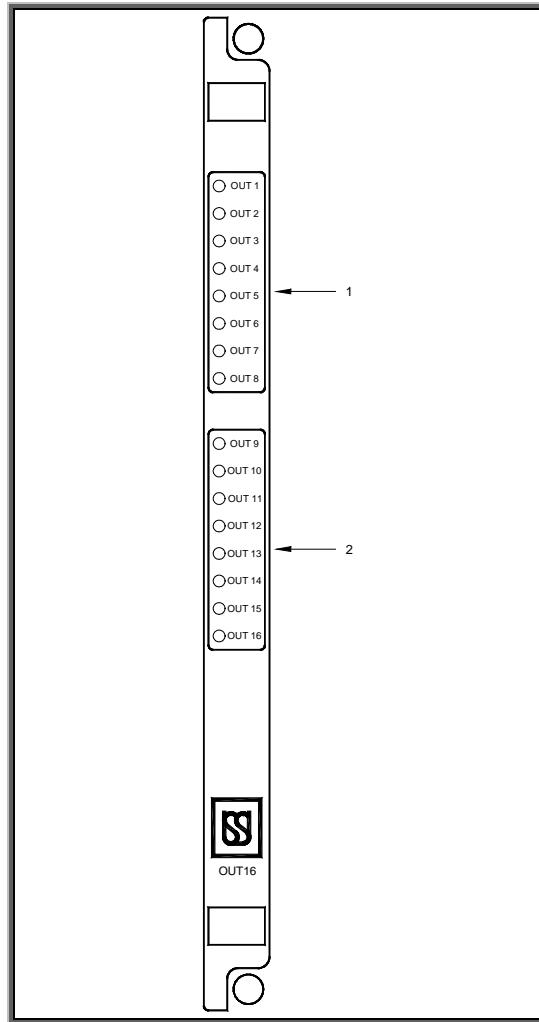

Figure-2.4
2.4 STANDARD VITAL OUTPUT PRINTED CIRCUIT BOARD (Refer Figure-2.4)